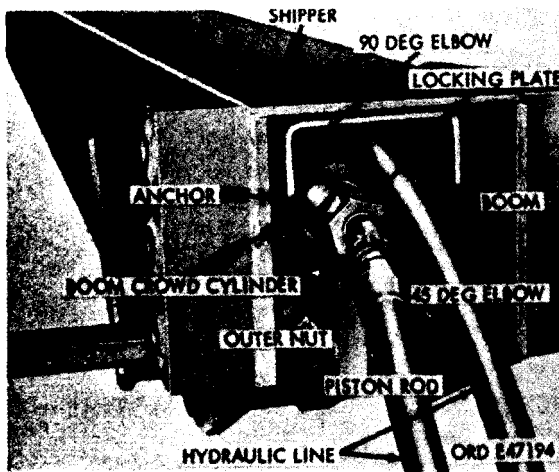

Figure 406. Rear view of boom and shipper assembly with cable drum removed
h. *Boom Crowd Cylinder*. The boom crowd cylinder (fig. 406) is mounted horizontally inside the boom and shipper assembly. The rear end of the crowd-cylinder piston rod is secured to the anchor (welded to the rear end of the shipper) by two nuts and a locking plate. A collar welded to the crowd cylinder at a point midway between the ends is secured to the boom by two pins inserted through the sides of the boom and the collar.